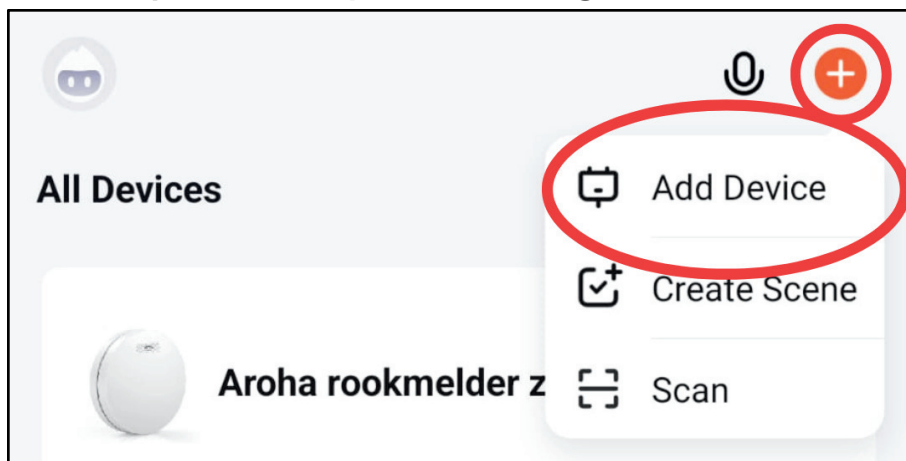

Figure 1: Add Device in app
**Step 5:** Click on the "+" in the top right corner of the app home screen. Then choose "Add device", as you see in Figure 1. The app will now automatically look for devices that are in pairing mode. Follow the steps as described in the app.